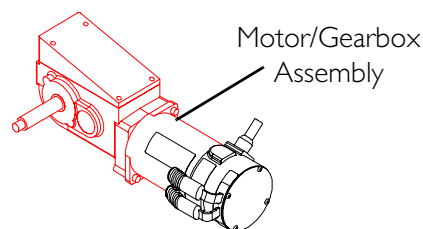

FIGURE 12.4 Wheel Lock Installation Identification
NOTE: For this procedure, refer to FIGURE 12.4.
- Motor assembly Resembles FIGURE 12.4 - Refer to Installing Wheel Locks for Motor/Gearbox Assemblies on page 111.
- Motor Assembly Does Not Resemble FIGURE 12.4 - Refer to Installing Wheel Locks for GB Motors on page 112.